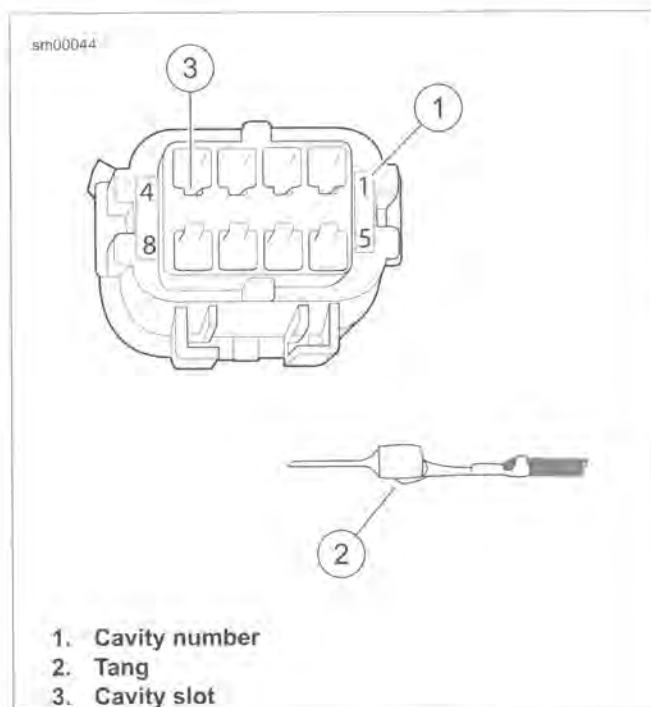

Figure A-51. Molex MX 150 Sealed Connector; Pin Cavities and Wire Terminal
1. See Figure A-51. From the wiring diagram, match the wire color to its numbered terminal cavity.